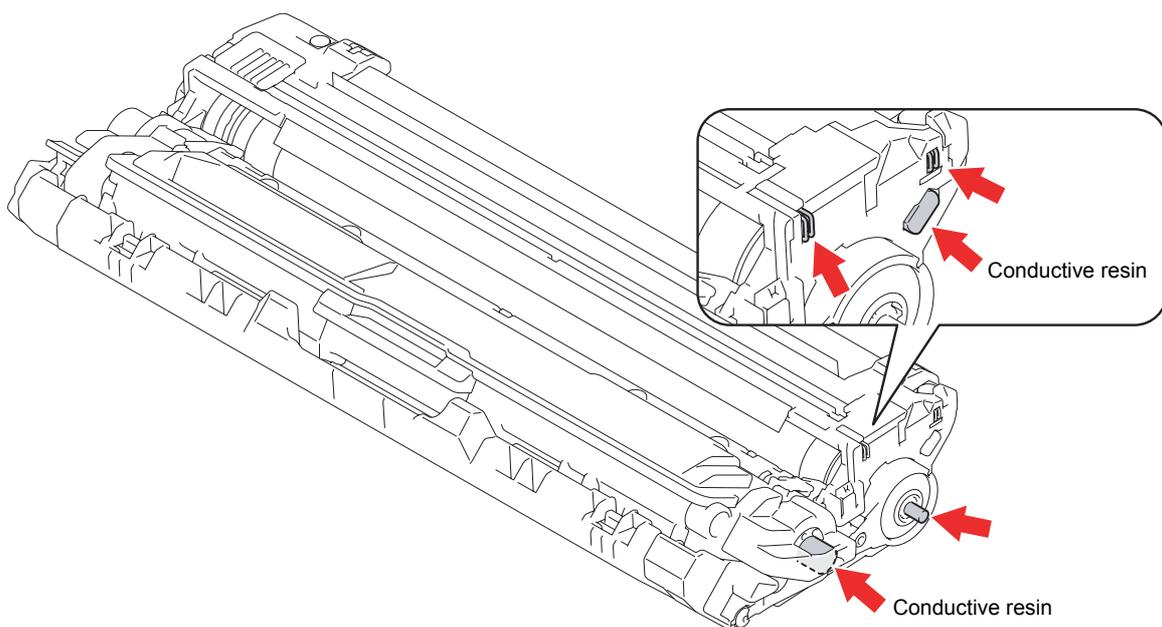

Fig. 2-6
- Clean the drum unit. (Refer to fig. 2-6 \(P2-41\))
- Clean the GRID terminals of the drum unit. (Refer to fig. 2-6 \(P2-41\))